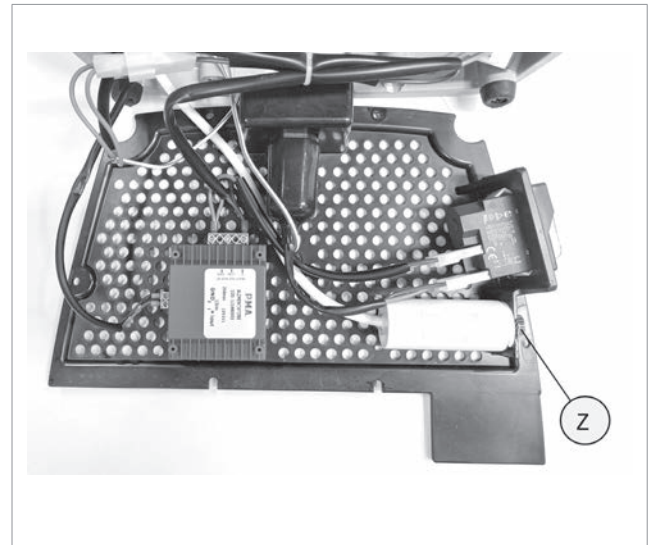

Fig. 58
- Loosen the nut (Z) (Fig. 58) and remove together with the washer.